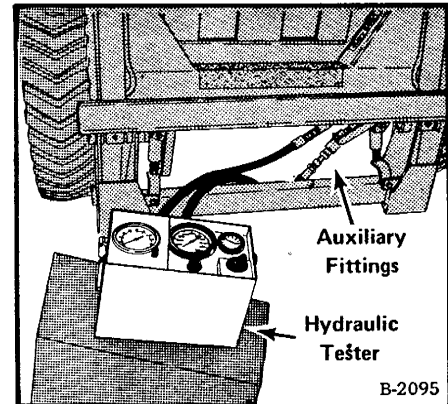

Fig. 2-12 Checking Auxiliary Hydraulics
- (1) Connect the tester to the auxiliary fittings (Fig. 2-12). Turn the control knob fully counterclockwise.
- (2) Start the machine and run at full throttle.
- (3) Push the toe of the auxiliary pedal. If there is no flow indication press the heel of the pedal.
- (4) Turn the control valve on the tester full clockwise. Read the release pressure on the gauge (See Section 8 for pressure specifications).